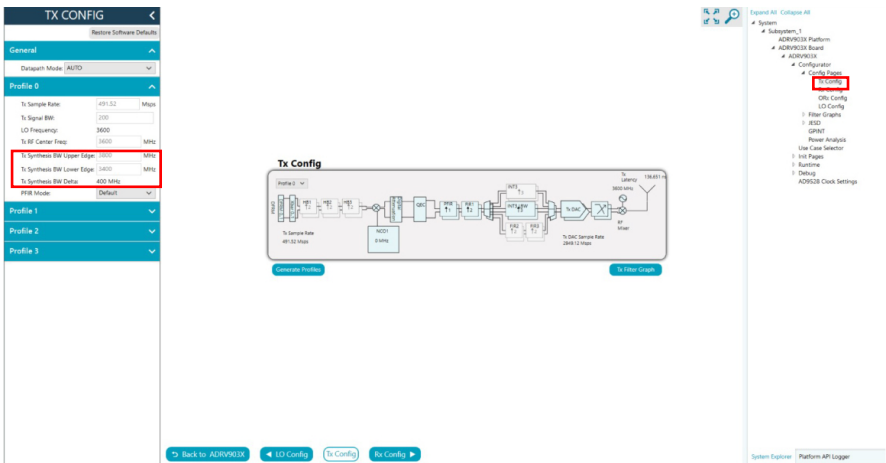

Figure 17. Tx Config Page
3. Update the Tx Synthesis BW Upper Edge and Tx Synthesis BW Lower Edge boxes under the Tx Config area as shown in Figure 17.